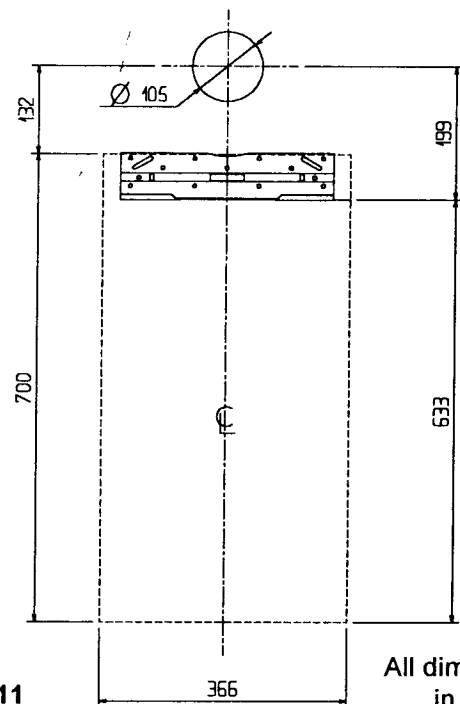
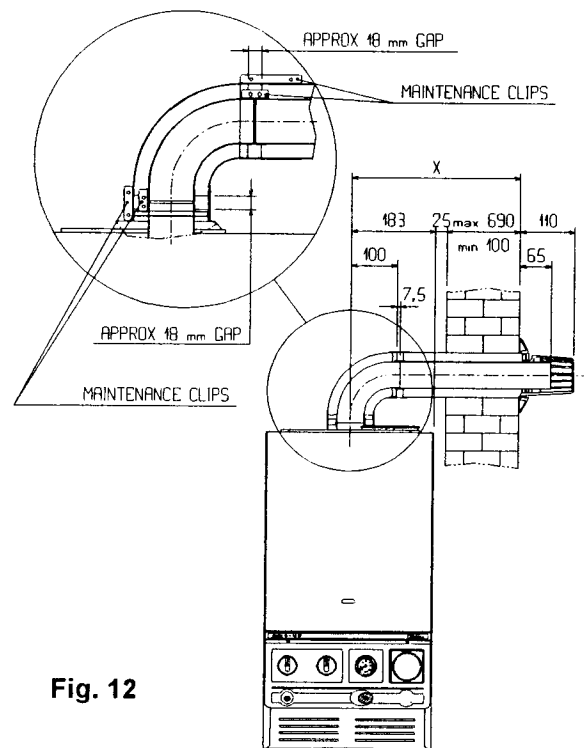
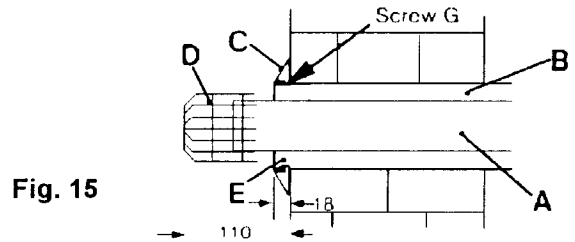
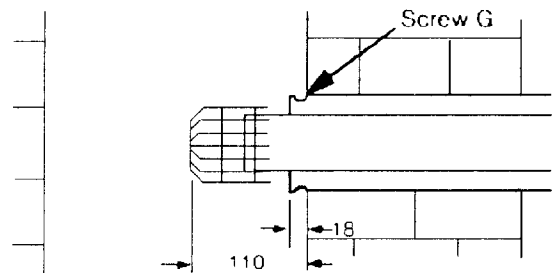

Fig. 11
Fig. 12
Fig. 15
Fig. 16
5.4 MOUNTING THE APPLIANCE (Ref. Fig.11)
- 5.4.1 Place the template on a smooth, vertical, non-combustible surface and use it to locate the upper bracket, bottom fixing and flue pipe hole. Alternatively, position bracket and holes to dimensions in Fig. 11.
Refer to fig. 11 and figs. 12 - 16 for relevant dimensions for locating the hole. Where it is remote from the boiler take special care to ensure the hole is at the correct level so that the finished flue is horizontal.
5.5.1 Refer to figures 12 - 16
5.5.3 Hang the boiler on the bracket. Adjust the boiler sideways to its correct position. Locate the small maintenance clip on to the flue elbow (figs. 12 & 13) and assemble onto the flue outlet on the top of the boiler. Twist the flue bend to the outlet direction required, and tighten the maintenance clip to secure the flue bend in place. Carefully level across to check that the hole through the wall is at the same level as the flue bend.
5.5.4 Measure carefully from the actual face of the outside wall to the centre of the flue bend. (Dimension X on Figs 12 & 14)
NOTE: The two tubes must be separated by removing screw G (fig. 15) before cutting. The outer air tube should also be shortened by the same amount to allow a gap for easy working (see inset on fig. 12).
5.5.9 Ensure inner and outer terminal tubes are firmly fitted together with screw G (Fig. 15). Push the terminal tubes through the wall until the face of the outer tube protrudes 18mm from the face of the wall (Fig. 15). The terminal grill (D) will then protrude 110mm from the wall face.
5.5.16 Check also that the outer end of the flue projects as indicated in Fig. 15 or Fig. 16 if installed in a S.E. duct.
5.5.17 Referring to Fig. 12 fit the large maintenance clips into position and secure the clip screws.
5.5.19 Seal the peripheral gap around the outer tube with cement or mastic and slip the cosmetic flexible plastic collar (Fig. 15) item C) into groove on the pipe.
5.5.21 Assemble the large and small maintenance clips as shown in Fig. 12.
- 5.5.29 Referring to Fig. 12 fit the large maintenance clip into position and tighten clip screws.
- 5.5.32 Subtract 97mm from the dimension and cut the outer tube to this length. NOTE: The two tubes must be separated by removing screw G Fig. 15 before cutting.
- 5.5.39 Referring to Fig. 12 fit the large maintenance clip into position and secure clip screws.